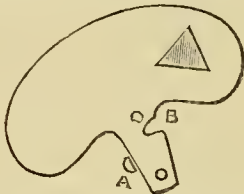

FIG. 1.—EXTRA SLIDE.
throw off with a rubber spring the opposite way to that in which Fig. 45 throws off, and made something like the sketch shown in Fig. 1, in which the stop A will allow the shutter to fall open to the full extent one way, the recess B allowing way for the pillar of the other shutter, which must
must necessarily have a soft iron core; if not, how could the piece G, Fig. 4 (page 61), be attracted. As to your second query, if you will read attentively the last two lines and following of the first column (page 60), you will see that it is pretty clear; if there were two bobbins, I wonder where I could have put the second one, as there is only one hole in A, Fig. 4. See also Fig. 1. The battery I tried and found the best is described here. (See answer to A. B. C.)—L. M.
ticular about it; it is made like that of an electric bell, but as may be seen in A, Fig. 4 and Fig. 1, there is only one bobbin. (4) The arm r may be made of brass or steel, but brass would look prettier if the whole is made of brass; besides, if you use brass, you will be able to bend it more easily to the required curve (see 2nd paragraph, 1st column, page 60). (5) The spring B is, in my clock, made of brass, which I think is preferable, as you can heat it down to the required thinness, which would be about the thickness of the supplement sheet doubled up. The end of spring B must be sufficiently thin and soft, and you will make it so by lengthening or shortening it when you screw it with its support on the board. Of course, it is twisted on itself, so that one end may bear flat on the wheel, while the other is fixed by the thumbscrew. (6) See answer to E. J. (Bristol). (7) The two ribbons of steel which suspend the pendulum are about one-sixteenth inch broad, and should be as thin as you can get them. Take care they do not touch spring A that passes between them. (8) If you will look attentively at Fig. 3 this query will almost be answered. The axes of the hands, instead of being square, as in ordinary clocks, are round, and the ends of the tubes of wheels c and r (Fig. 3), are slightly conical (which can easily be done with a small flat file), so as to allow the hands to be fixed tightly on them. This should be done last of all, when the face of the clock is ready, for very likely you will have to somewhat shorten the tubes, and file them conical a little at a time to get the hands at the right depth. All depends on the distance which you leave between the face of the clock and wheel F. (9) The axis (Fig. 8) is fixed on wheel and moves in plate (Fig. 5) at c. (10) Axis c is fixed in minute wheel, and is, as you say, a tube fitting on axis B (Fig. 5). (11) You are not right this time. In Fig. 9 the tube is fixed in hour wheel similarly to minute wheel, but it has for its axis the tube of the minute wheel. (See Fig. 3, wheels c and r.) Fig. 3 so far as this is concerned is pretty well drawn. (12) I could not tell you where you can get wheels in England, of course; as to the cost, I am glad to say they cost me nothing, as a friend of mine, a clockmaker, made them for me; but I should think you could get them if you apply to the right place for 5s. or 6s., with their fittings. The remainder can easily be made by a real amateur.—L. M.